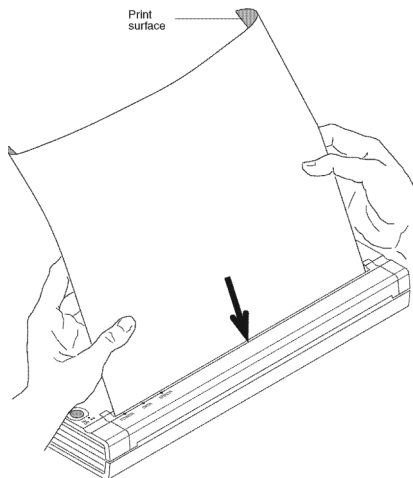

Figure 9. Inserting a sheet of paper
3. Insert a sheet of Brother Genuine (PA-C-410) into the paper input slot. Place the print side of the paper away from you, so that it faces the rear of the printer. See Figure 9.